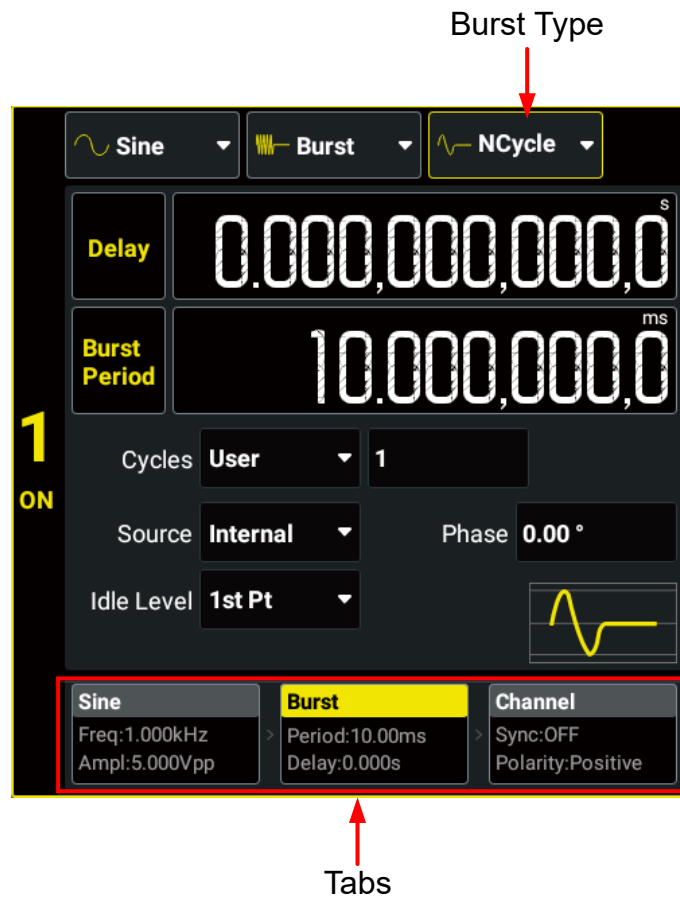

Figure 8.1 Burst Setting Interface
DG900 Pro can output two types of bursts: N-Cycle Burst (default) and Gated Burst. In the Burst Setting Interface (*Figure 8.1*), click or tap the "Burst Type" drop-down button to select "NCycle" or "Gated". The table below illustrates the trigger sources and waveform parameters available for the two burst types.
- **Manual:** Manual trigger is only available for N-Cycle Burst mode. When manual trigger is selected, click or tap the manual trigger key  in *Figure 8.1* interface or press the front-panel  key to initiate a burst output immediately. If the output of the corresponding channel is not enabled, the trigger will be ignored.
After enabling the Burst function, in Burst Setting Interface (*Figure 8.1*), click or tap the **Idle Level** drop-down button to select the idle level.